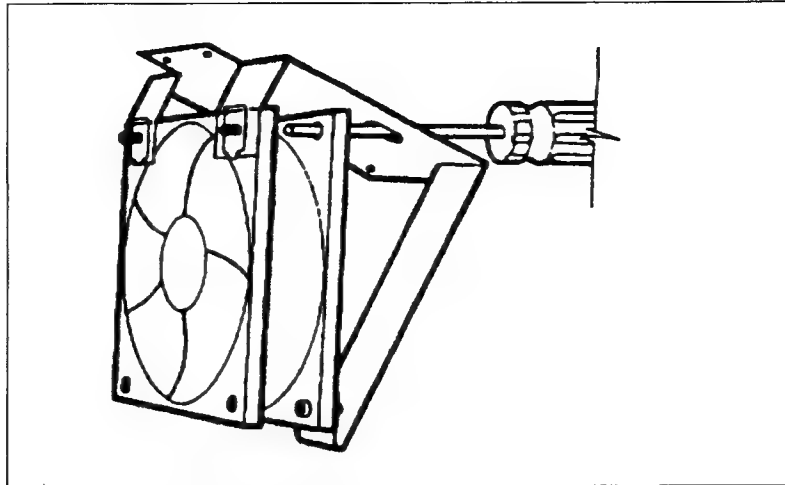

Figure 6-20. Lower Fan Bracket
- e. Remove the fan from the bracket by removing four screws (see Figure 6-20).